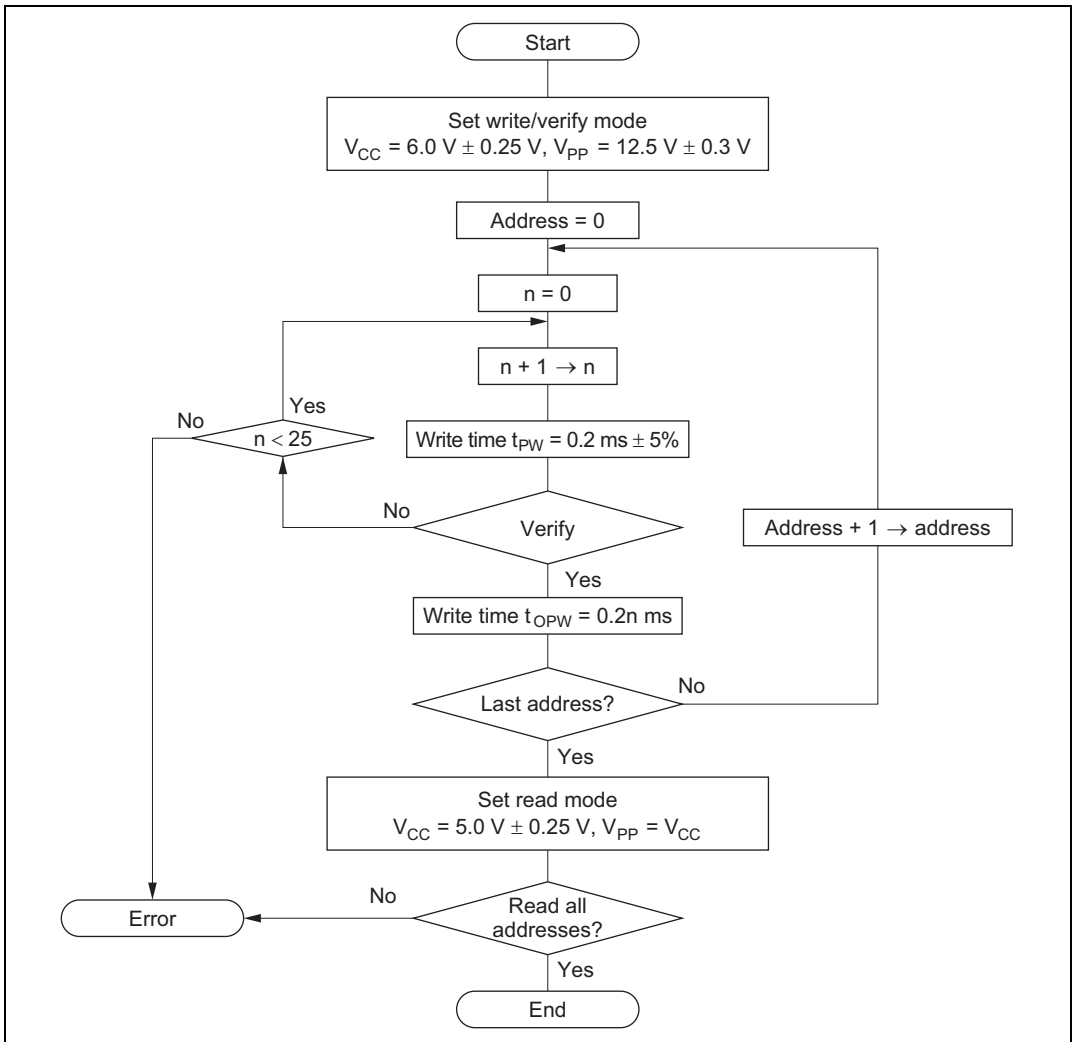

Figure 6.4 High-Speed, High-Reliability Programming Flowchart
An efficient, high-speed, high-reliability method is available for writing and verifying the PROM data. This method achieves high speed without voltage stress on the device and without lowering the reliability of written data. The basic flow of this high-speed, high-reliability programming method is shown in figure 6.4.
- t_{OPW} is defined by the value given in figure 6.4, High-Speed, High-Reliability Programming Flow Chart.